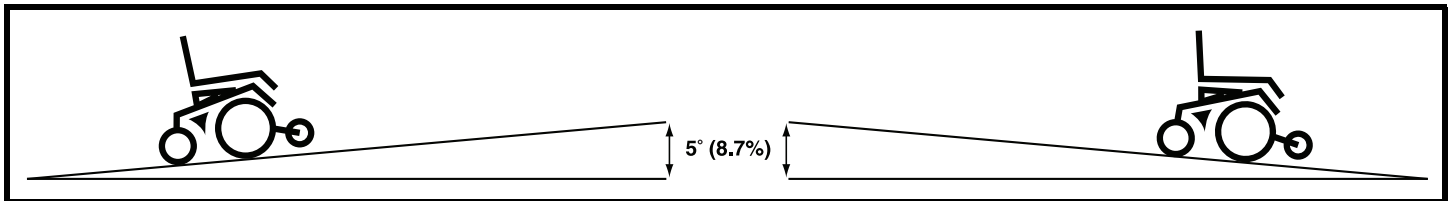

Figure 1. Maximum Safe Angle (Ascending and Descending)
**WARNING!** Even though your power chair is capable of climbing slopes greater than those illustrated in figure 1, do not, under any circumstances, exceed the incline guidelines or any other specifications presented in this manual. Doing so could cause instability in your power chair.
Pride recommends that the maximum slope of an incline you attempt to safely ascend or descend on your power chair does not exceed 5° (8.7%). See figure 1.